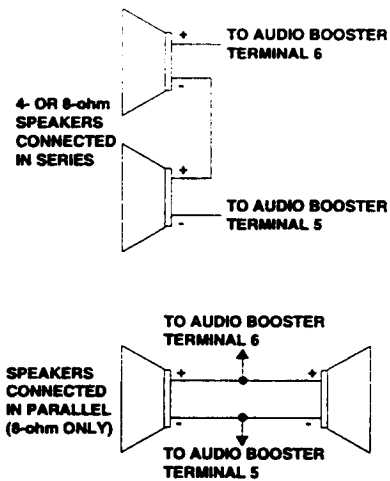

Figure 4. Speaker Connections
- 3) Connect the speaker(s) to the booster terminals 5 and 6 as shown in Figure 4.